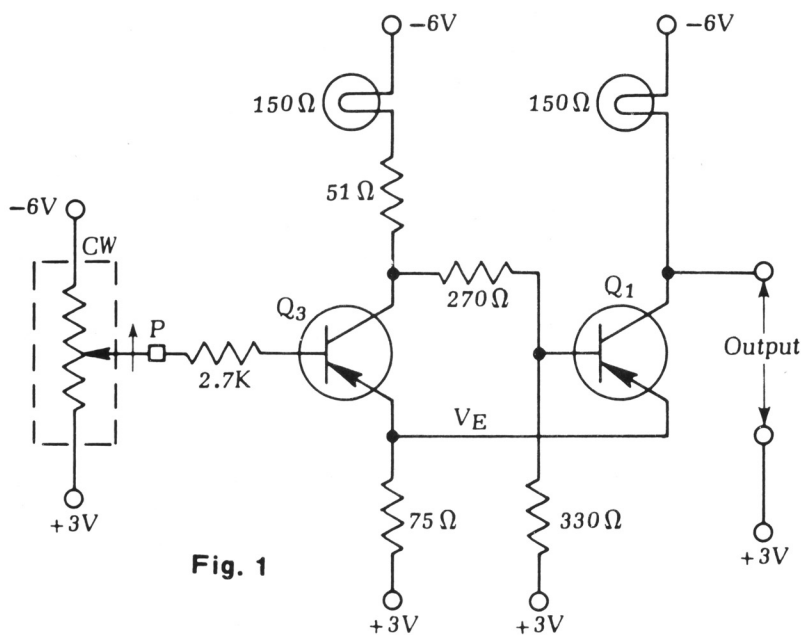

Fig. 1
1. "Wire-up" the circuit in fig. 1 on the breadboard. Before applying power, set P to the full CCW position.